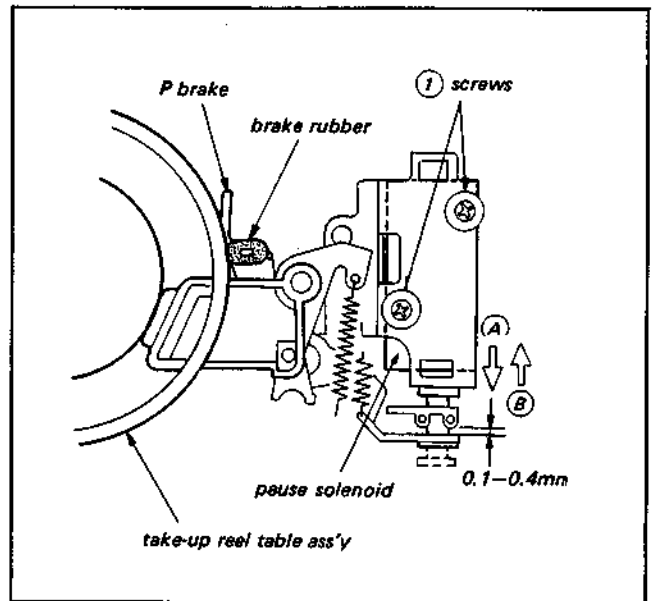

Fig. 3-16. Position adjustment of pause solenoid (Stroke adjustment)
3. Loosen the screws (1) that mount the solenoid and move the solenoid in the direction indicated by screw (A) as shown in Fig. 3-16 so that a clearance is made between the brake rubber and the take-up reel table.
4. Then move the solenoid in the direction shown by arrow (B) and tighten screws (1) after the solenoid is moved further 0.1–0.4 mm in the (B) arrow direction from the point where the brake rubber begins to touch the take-up reel table assembly.